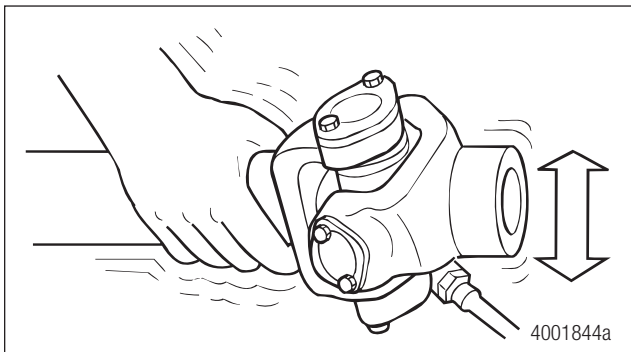

Figure 6.16
- a. Move the assembly UP-AND-DOWN or SIDE-TO-SIDE while you apply grease gun pressure. Figure 6.16.